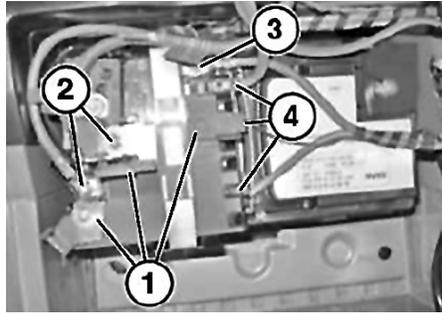

Fig. 1 Power distribution box covers, nuts & plug connections
5. Fold up power distribution box covers (1), **Fig. 1**.
6. Remove power distribution box nuts (2), **Fig. 1**.
7. Remove power distribution box nut (3), **Fig. 1**.
8. Disconnect electrical connectors (4), **Fig. 1**.
7. Connect electrical connectors (4) to power distribution box, **Fig. 1**.
8. Install power distribution box nuts (2) and (3), **Fig. 1**. **Torque** nuts to 71 inch lbs.
9. Close power distribution box covers (1), **Fig. 1**.